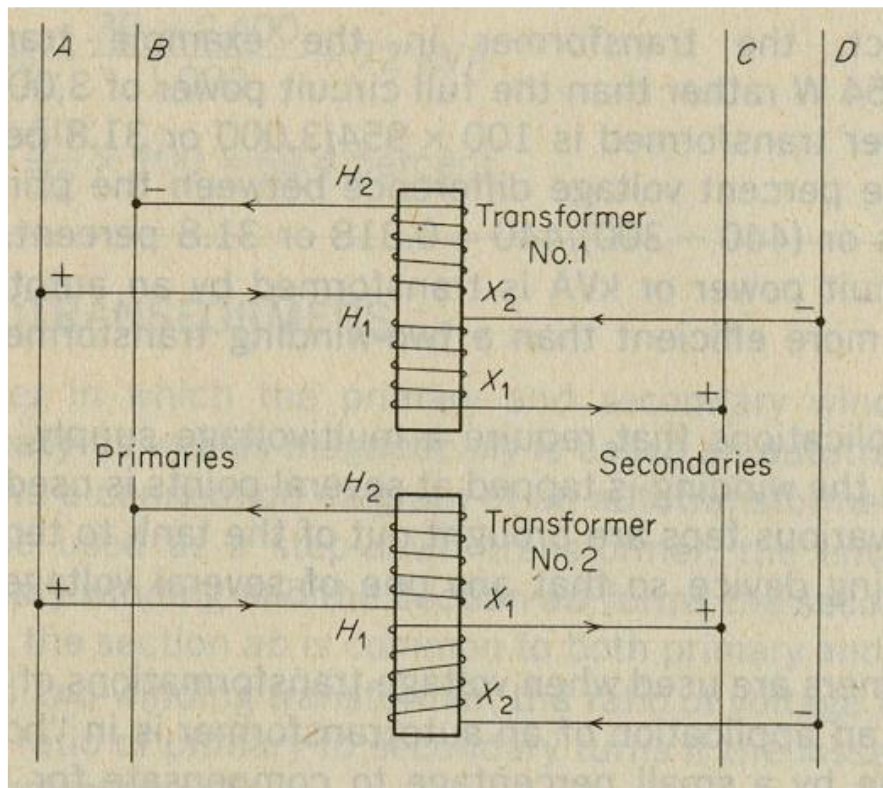

Figure 2: Two transformers connected for parallel operation
Suppose we have two transformers T1 & T2, having terminals H1, H2 (HV) & X1, X2(LV) as shown in figure 2. The transformers in fig 2 are so marked that if the H1 s are connected to one primary line and the H2 s to the other primary line then the X1 s should be connected to the same secondary line and X2 s to the remaining secondary line.
3. Now connect the two transformers according to the figure 2.